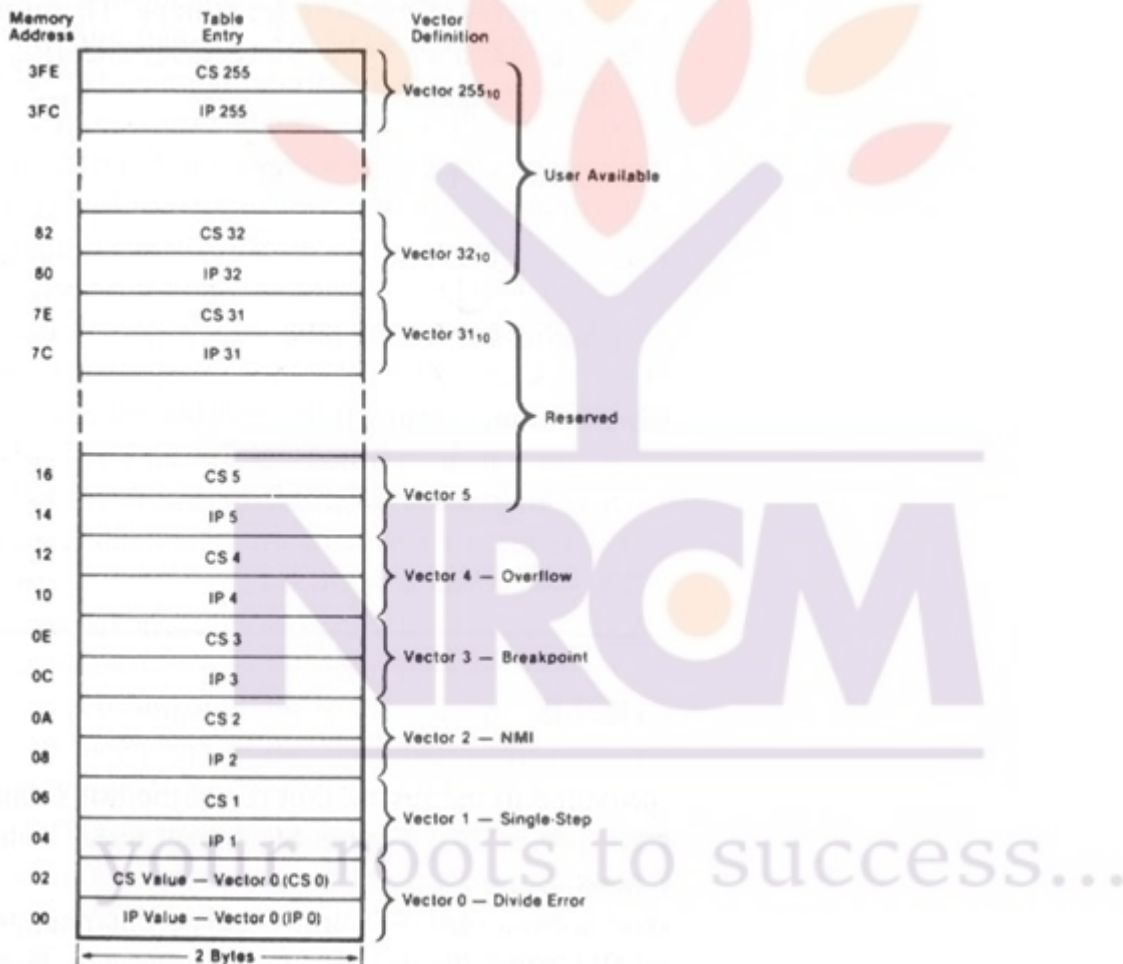

Fig 4.6. Interrupt vector table of 8086
- Fig. 4.6 contains 256 address pointers (vectors), which are identified as vector 0 through vector 255. That is, one pointer corresponds to each of the interrupt types 0 through 255. These pointers identify the starting location of their service routines in program memory. The contents of this table may be either held as firmware in EPROMs or loaded into RAM as part of the system initialization routine.